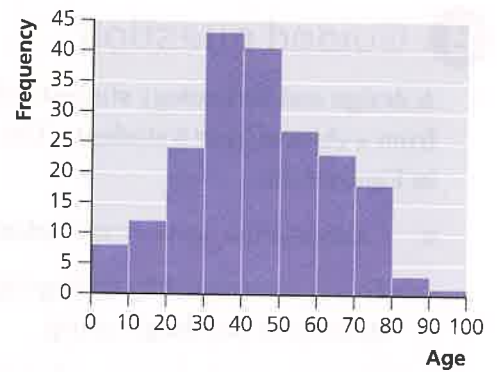

Figure 5.20 People who voted yes, grouped by age
- 3 An automated voting machine in an airport asked whether visitors were enjoying their day. Those who voted yes were asked to indicate their age. The results were recorded and displayed in Figure 5.20.
- From Figure 5.20, a design and technology student concludes that the group in the airport who enjoyed their day the most are aged 30–50, while people aged over 90 did not enjoy their day very much at all. Explain an alternative conclusion that could be drawn from this chart.